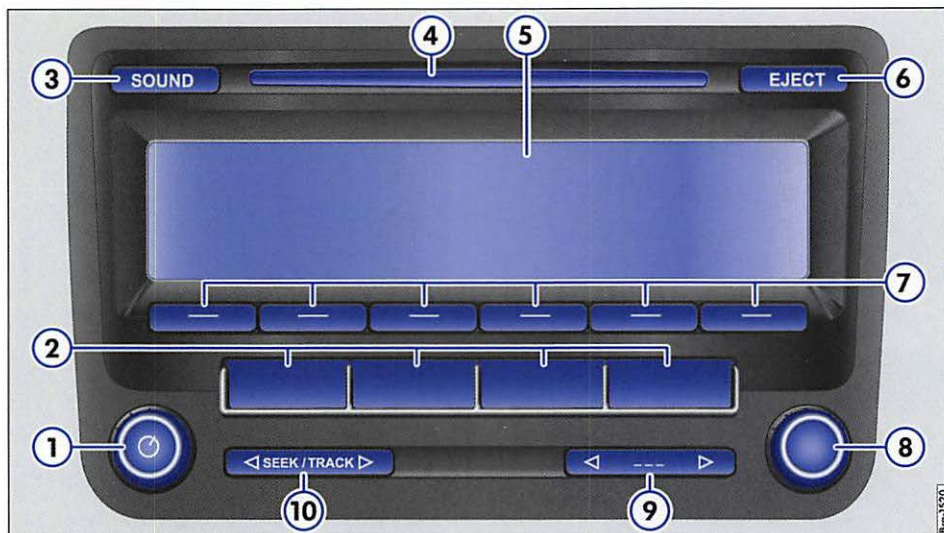

Fig. 1 Overview of the controls.
There are various versions of the RCD 310 that may have different key labels. The keys are shown without labels in the figure (in fig. 1: ② and ⑨).
① Rotary and push button
② Device keys: Press a device key to access a function. Labels and functions depend on the device variant.
The left rotary and push button ⇒ fig. 1  is designated Volume control  or On-Off switch.
The right rotary and push button ⇒ fig. 1  is the adjustment knob.
The labeled keys on the device are called "device keys" and are displayed as key icon with content in blue, such as the device key  ⇒ fig. 1.
Below the screen are six unlabeled device keys ⇒ fig. 1 . These device keys are called "function keys" because their function changes depending on the operating mode selected.
Switching device On or Off manually.	⏻ ⇒ fig. 1 Briefly press the rotary and push button. When ignition key is removed, the device switches off automatically after about 30 minutes (time out).
Increase volume.	Turn the volume control ⏻ ⇒ fig. 1 right or press the button on the multifunction steering wheel ⇒ booklet Operating Instructions , chapter Vehicle Overview .
Different versions of the radio system are shipped, depending on the country of delivery and the configuration. All variants are listed in the device overview $\Rightarrow$ fig. 1.